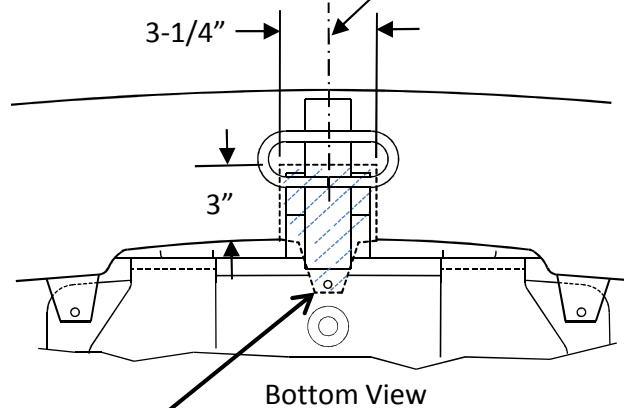

Figure 2
1. Using a 10mm socket, remove (2) hex nuts holding the bumper fascia to the bottom of the trunk pan.
2. **Remove underbody panel** – If present (single exhaust models), using a 10mm socket remove (3) hex nuts and (1) push-type rivet and temporarily remove the underbody panel.
4. **Remove drain plugs** – using a utility knife, carefully cut the caulking around the (2) rearmost drain plugs in trunk pan. Remove drain plugs and return to vehicle owner.
6. **Trim fascia** - using a tape measure, marker, and utility knife, cut a notch in the lower part of fascia, approximately 3-1/4" wide x 3" deep, centered on vehicle as shown in figure 2.